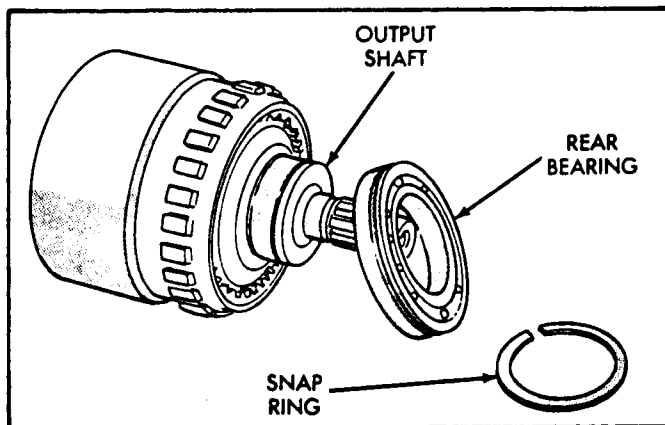

Figure 10
12. Remove the rear ball bearing from the output shaft (See Figure 10).